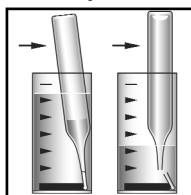

Figure 3
6. Place the CHEMet ampoule, tip first, into the sample cup. Snap the tip. The ampoule will fill leaving a bubble for mixing (fig 3).